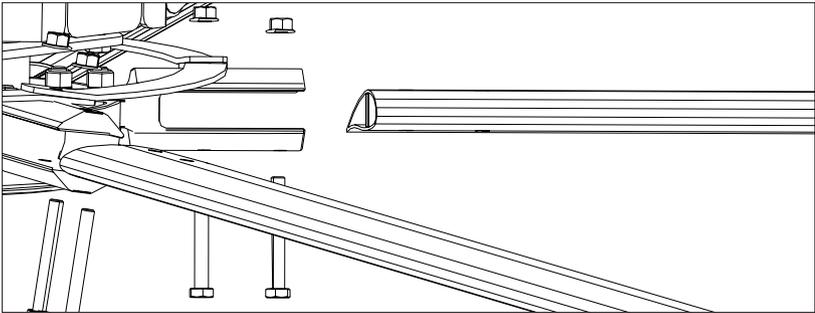

Fig4.7 Attach (6) safety ring to Airfoil
- (3) The bolt holes on the blade and the bolt holes on the Hub align.
(4) Attach the (6) airfoil retainers using the Airfoil Hardware. Moving clockwise around the fan hub, position the airfoil retainers end over end as shown in figure 4.7. Do not tighten the bolts until all the airfoil retainers have been attached.